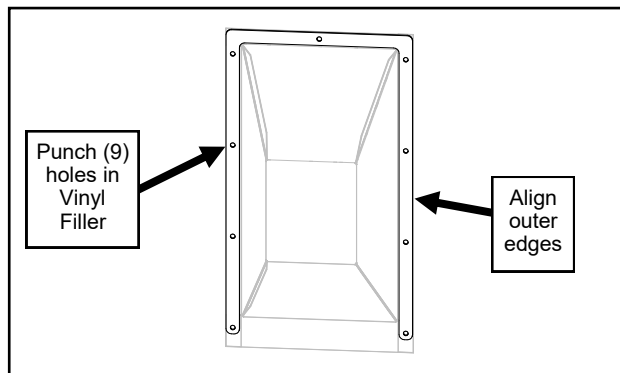

Fig. 9.1 (Punch Holes in Vinyl Filler)
- 9.1 Using the painted sheet metal mounting flange as a template, mark and pierce holes in the vinyl filler. See Figure 9.1.